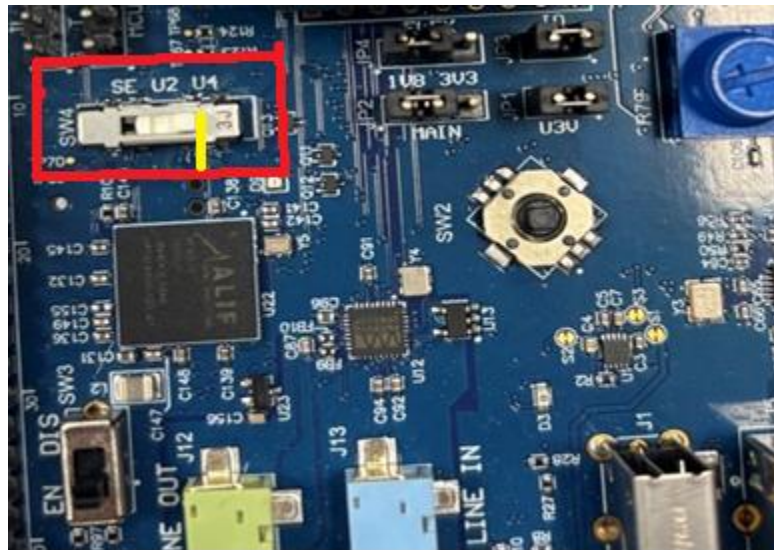

Figure 5 – UART4 “U4” setting in SW4.
- For UART4, refer to SW4 labeled “U4,” which is indicated by the yellow line in Figure 5 below.